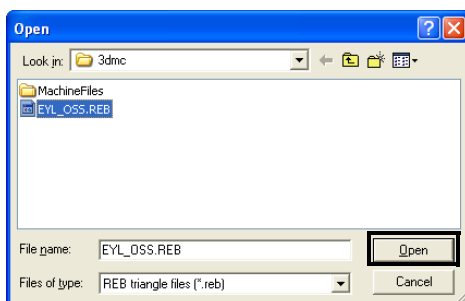

Figure 5-4. Open REB Triangle File
2. On the *Open* dialog box, navigate to the location of the desired file, select it, and press **Open** (Figure 5-4). The information from the selected file is added to the 3D Project file.